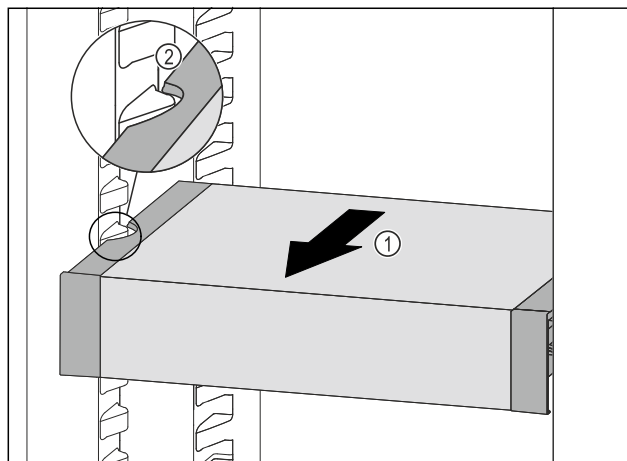

Fig. 185
- Pull VarioSafe forwards Fig. 185 (1) until the recesses in the side of the VarioSafe are at the level of the support rib in the fridge section. Fig. 185 (2)